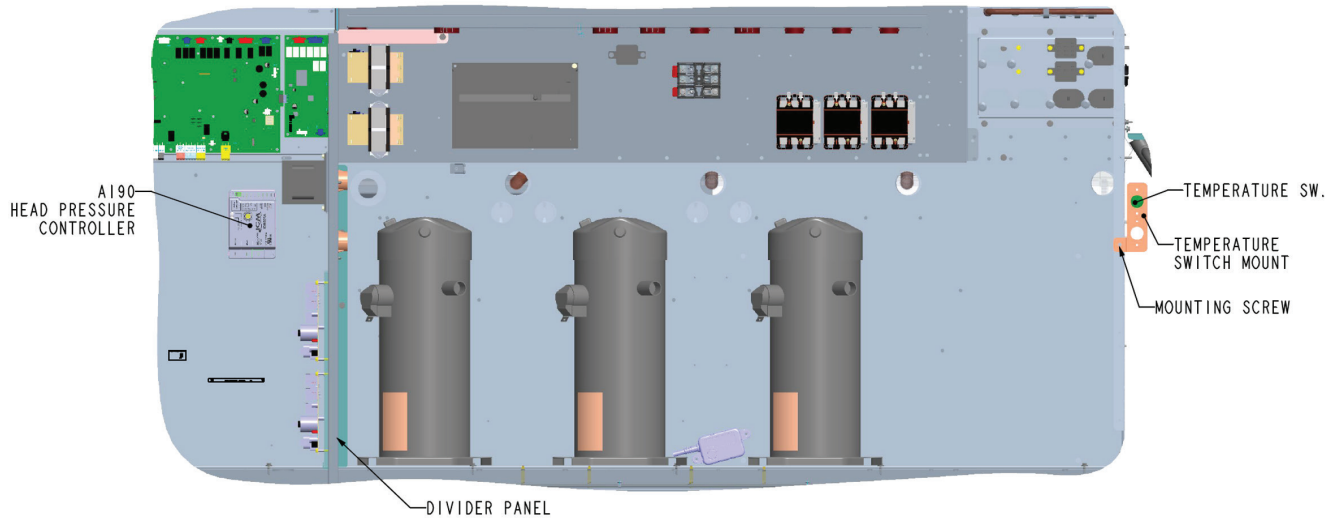

FIGURE 1
- 3 - Install the temperature switch mounting bracket onto the mullion. Align the bracket with the 4th screw from the top of the unit; secure with provided screw. See FIGURE 1.
- 1 - Route temperature switch wires through the division panel between the compressor and outdoor coil sections. See FIGURE 1.